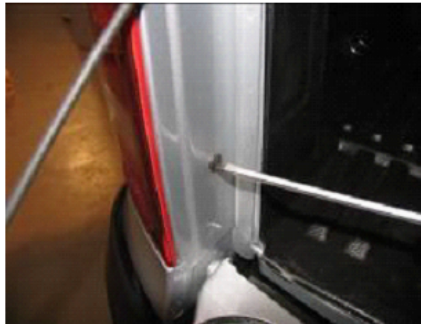

Fig. 8
- 5 Remove the car brake light (Fig. 8/9), connect hardtop brake light wire to it and re-install the rear light (Fig. 9).